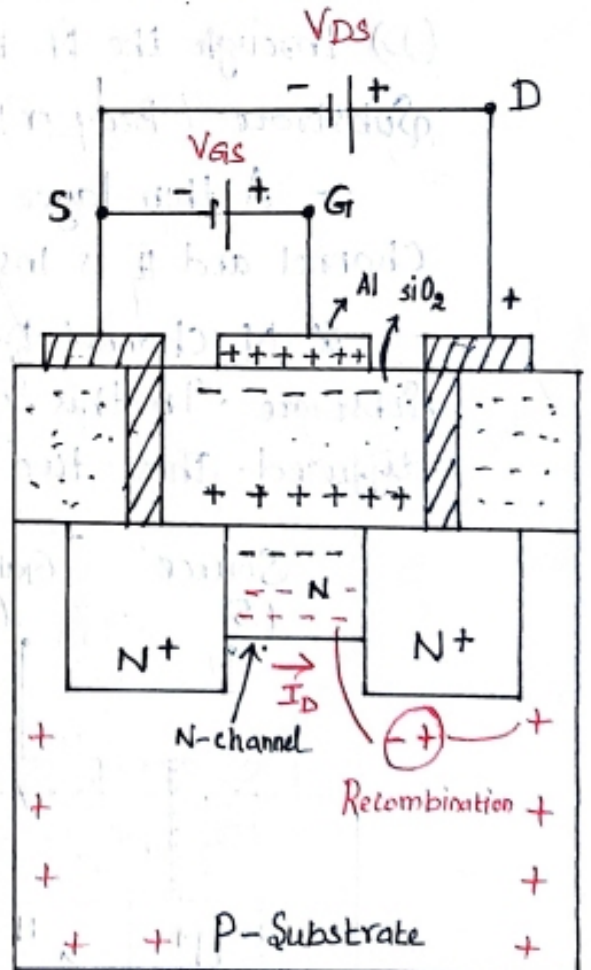

Fig. 3. Enhancement mode of D-MOSFET (Increase)
* The electrons will recombine with holes and the Number of free electrons in the "N-channel" will increase thereby increasing the Amount of Drain Current (I_D) in fig. 3. (i.e., 'enhance' the conduction of the Channel)